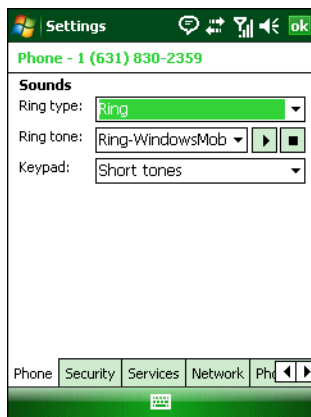

Figure 6-7 MC55 Phone Window - Phone Tab
1. From the **Security** tab (Figure 6-7), tap **Change PIN**.